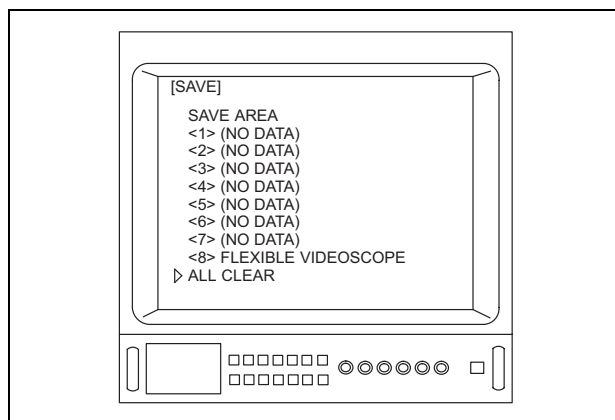

Figure 5.79
- Depress the menu switch "↵" or the "Enter" key on the keyboard. Then user settings are deleted and the menu shown in Figure 5.79 is displayed on the video monitor.